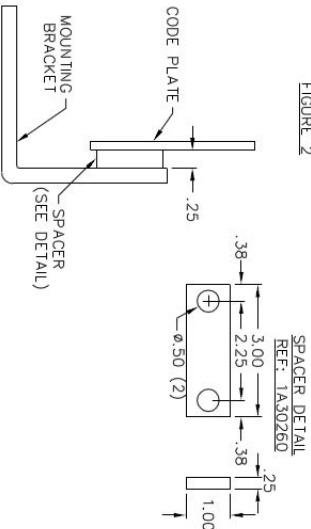

FIGURE 4
3. .25 THICK SPACERS MUST BE PLACED BETWEEN CODE PLATE AND MOUNTING PLATE FOR 50 VCP-W350 AND 150 VCP-W1000, 150VCP-WG50 AND 150VCP-WG63 ONLY, (SEE FIGURE 4).